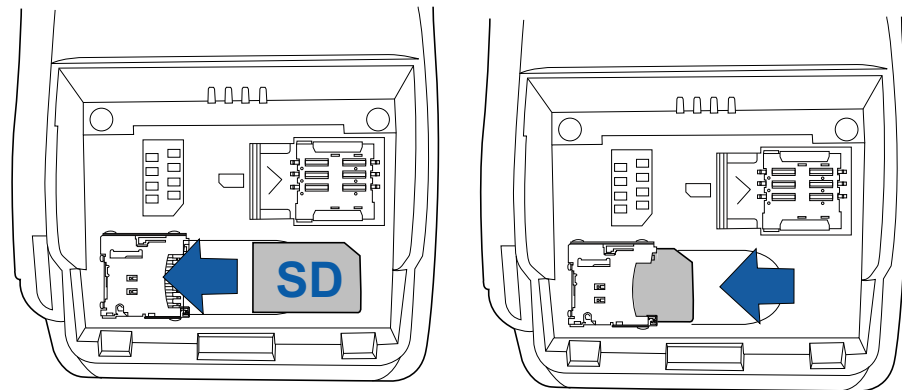

Figure 23 Installing SD Card
- 4 After removing the battery, the SD card compartment is exposed, as shown in Figure 23. The SD card holder is labeled SD.
There is only one SIM/R-UIM slot and one SD slot. Make sure you insert the SD card into the SD slot, as shown in Figure 23.